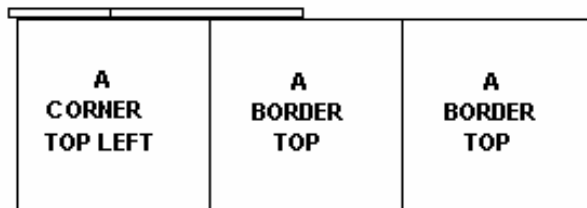

Figure 6
- Next lock another "A BORDER TOP" to Left side of "A BORDER TOP" (Figure 6).